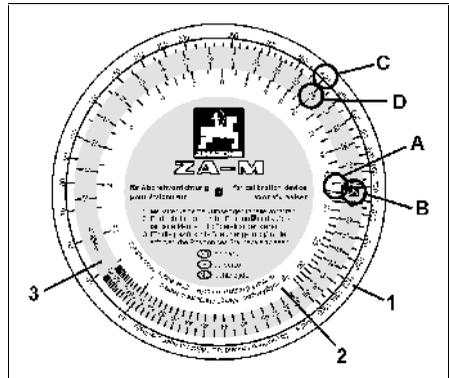

Fig. 37
- Take the calculating disc rule for the calibration device. Find on the scale (Fig. 37/2) for the collected material [kg] the figure "17,5" (Fig. 37/A) and align with position "K" (Fig. 37/B) on the coloured scale (Fig. 37/3).
- Look for the wanted spread rate (**400 kg/ha**) (Fig. 37/C) on the scale for the spread rate (Fig. 37/1) and read off the required shutter slide position "23" (Fig. 37/D).